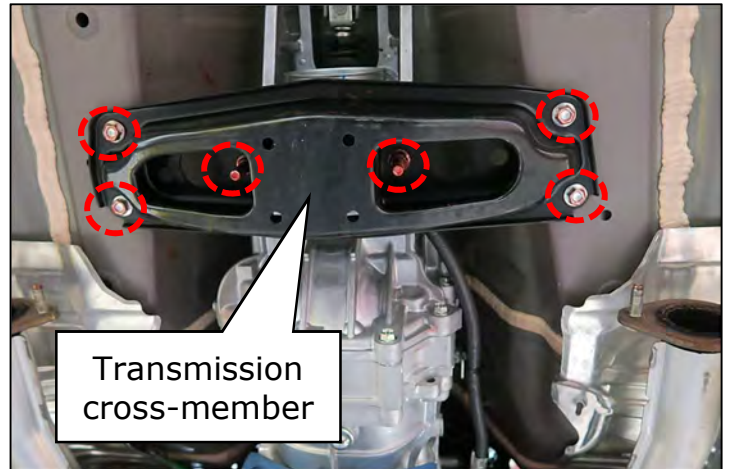

Figure 54
55. Remove the transmission cross-member. (Figure 54)
- Remove the (2) nuts securing the transmission cross-member to the rear engine mount (transmission mount)
- Remove the (4) bolts securing the cross-member to the vehicle frame rails